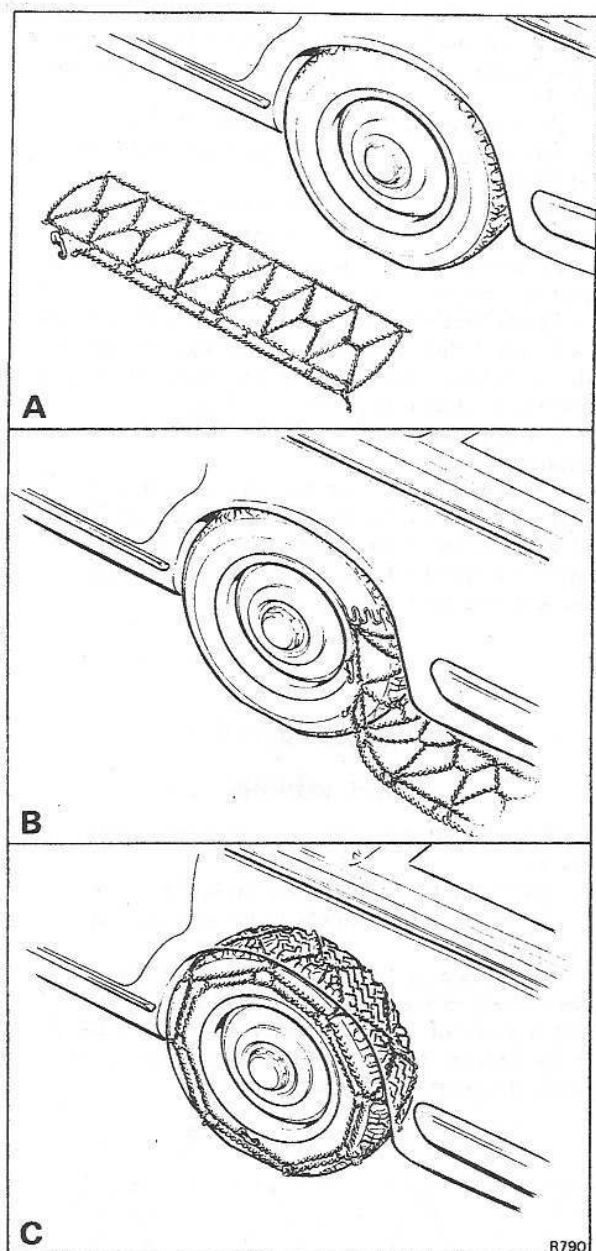

FIG. R16 FITTING UNION S2 3081 SNOW CHAIN
3. Position the chain adjacent to the rear wheel ensuring that the tension chain and tensioning key are positioned away from the car (see Fig. R16 inset A).
4. Hook the end or hook links onto the fitting clip and fasten the clip to the tyre (see Fig. R16 inset B).
10. Check to ensure that the tensioning key is correctly tightened; snow chains must not be fitted too tightly to the tyres. When correctly fitted it should be possible to slide a hand between the chain and tyre (see Fig. R16 inset C).
5. Position the chain adjacent to the rear road wheel ensuring that the tension chain and tensioning key are positioned away from the car (see Fig. R16 inset A). The chain should lie flat and not twisted.